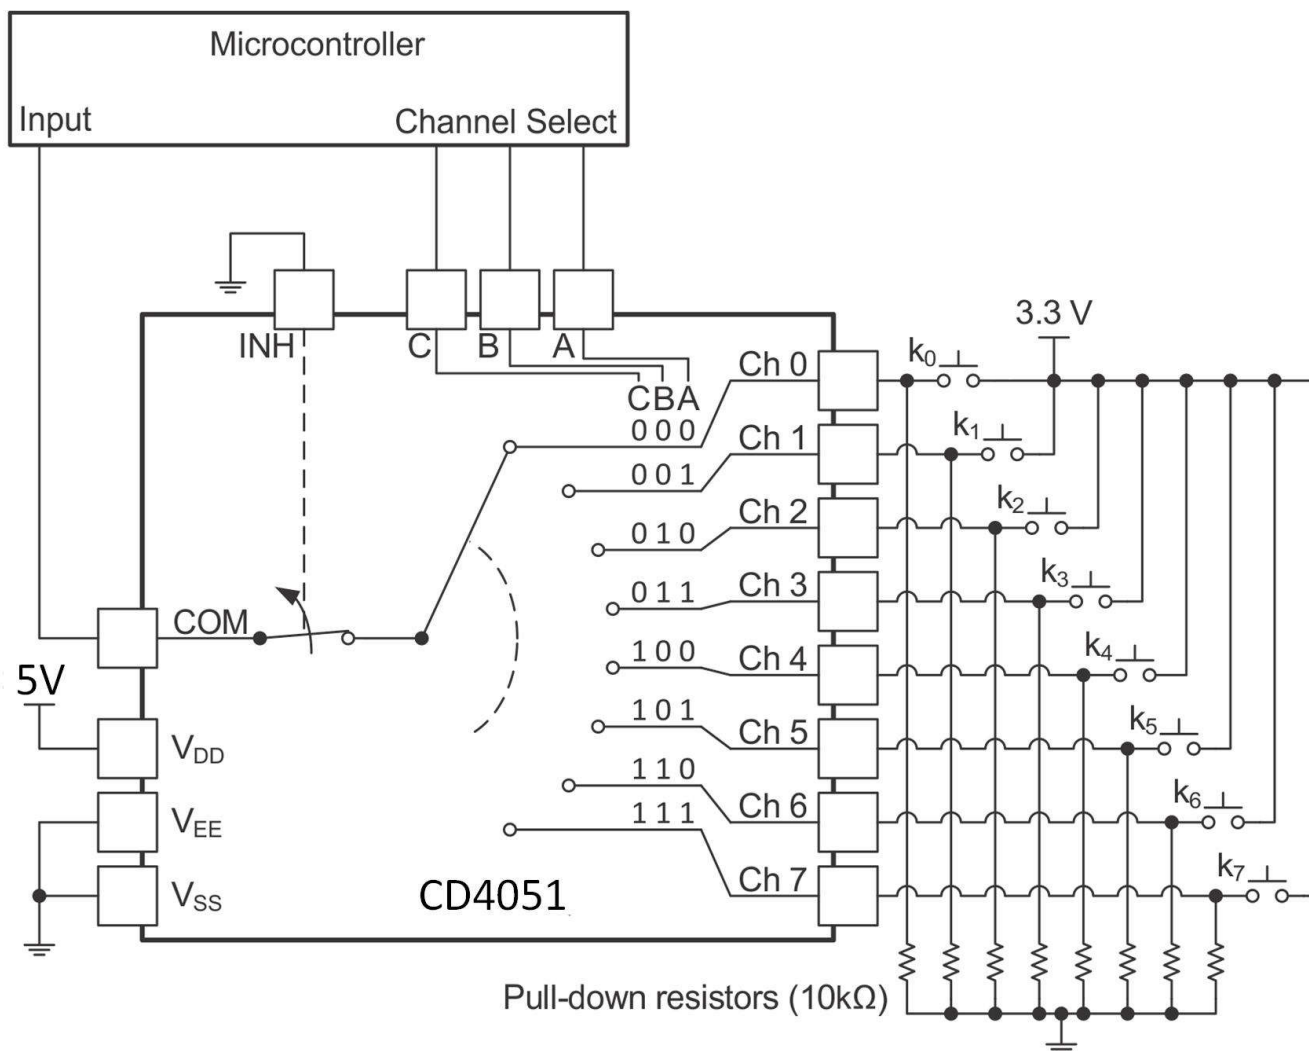

图 8-1. The CD4051B Being Used to Help Read Button Presses on a Keypad
One application of the CD4051B is to use it in conjunction with a microcontroller to poll a keypad. 图 8-1 shows the basic schematic for such a polling system. The microcontroller uses the channel select pins to cycle through the different channels while reading the input to see if a user is pressing any of the keys. This application is a very robust setup, allowing for multiple simultaneous key-presses with very little power consumption. This setup also uses very few pins on the microcontroller. The down side of polling is that the microcontroller must continually scan the keys for a press and can do little else during this process.
• Updated Figure 8-1 to 5V VDD.....	<a href="#">19</a>